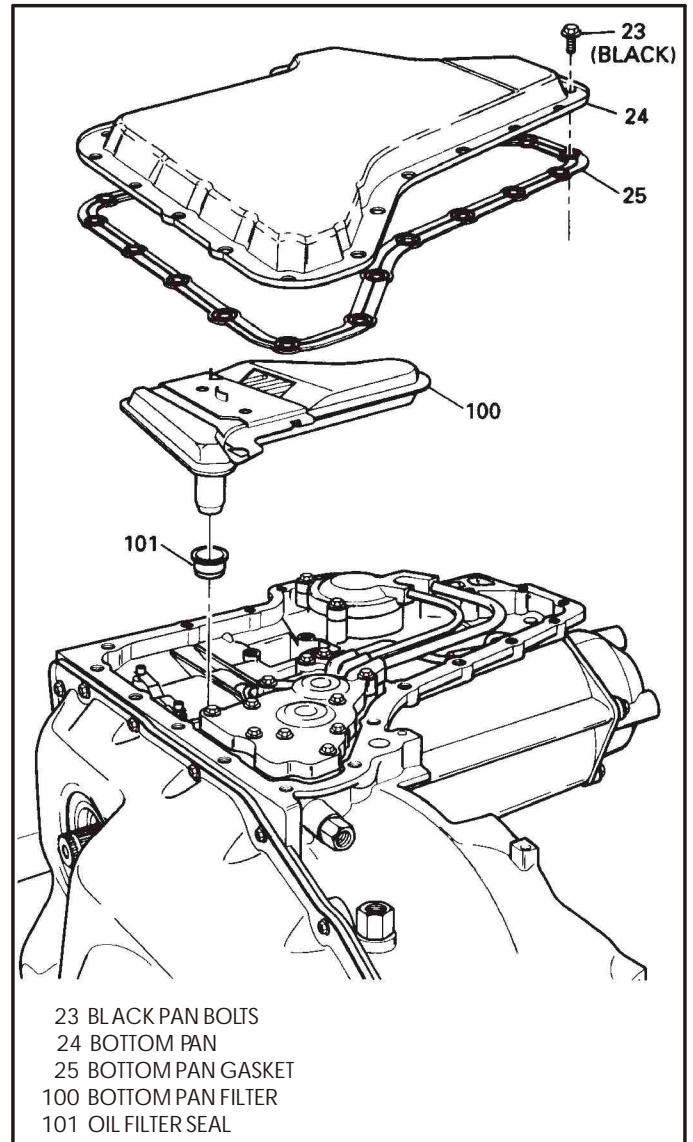

Figure 40
1. Remove the 20 bottom pan bolts using a 10mm socket (See Figure 40).